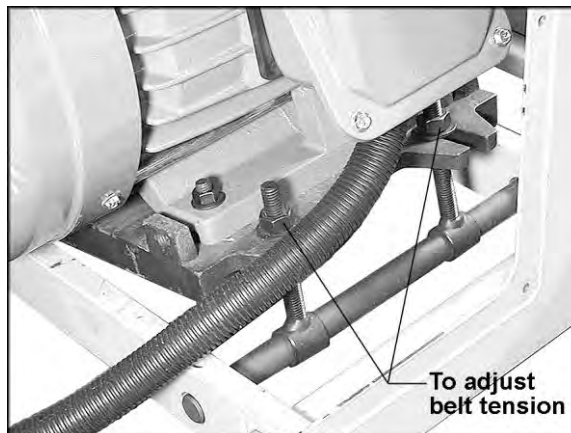

Figure 5
2. Remove the lower rear panel and use the four hex nuts on the motor mount to adjust belt tension. See Figure 5. Adjust motor plate up or down until correct belt tension is achieved. To lower the motor plate, loosen lower nuts and tighten upper nuts. To raise the motor plate, do the opposite.